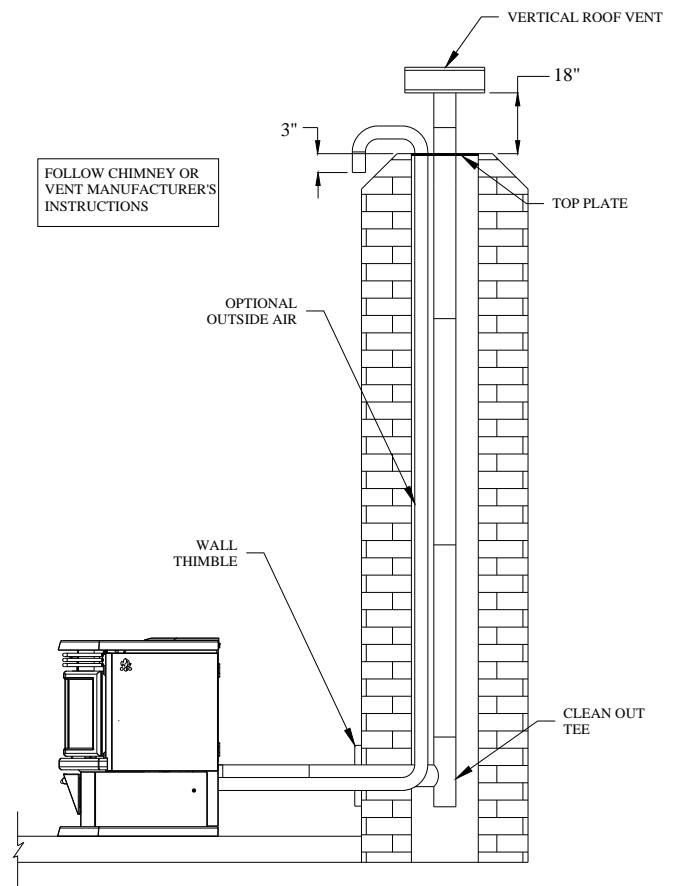

Figure 21
4. Install the tee on the bottom of the vertical pipe system and lower it down the chimney until the center branch of the tee is level with the center of the hole in the masonry, as shown in Figure 21.